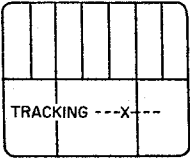
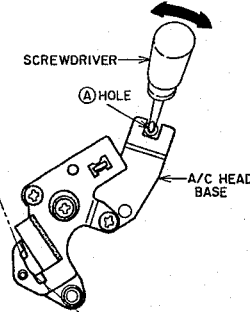

Fig. 4-15
Fig. 4-17
- 3) Press the "<" or ">" cursor button on the remote control until the "X" mark can be seen in the center position of the tracking range on the TV screen as shown in Fig. 4-15.
- 4) Loosen the ③ screw slightly so that the A/C HEAD PLATE can be moved with reasonable tightness.
- 5) Insert a sharp, flat head (④) screwdriver into the A/C HEAD BASE and ④ hole as shown in Fig. 4-17.
- 6) Move the A/C HEAD BASE by moving a screwdriver in the direction of the arrow as shown in Fig. 4-17 to obtain the maximum RF output, then tighten the ③ screw.